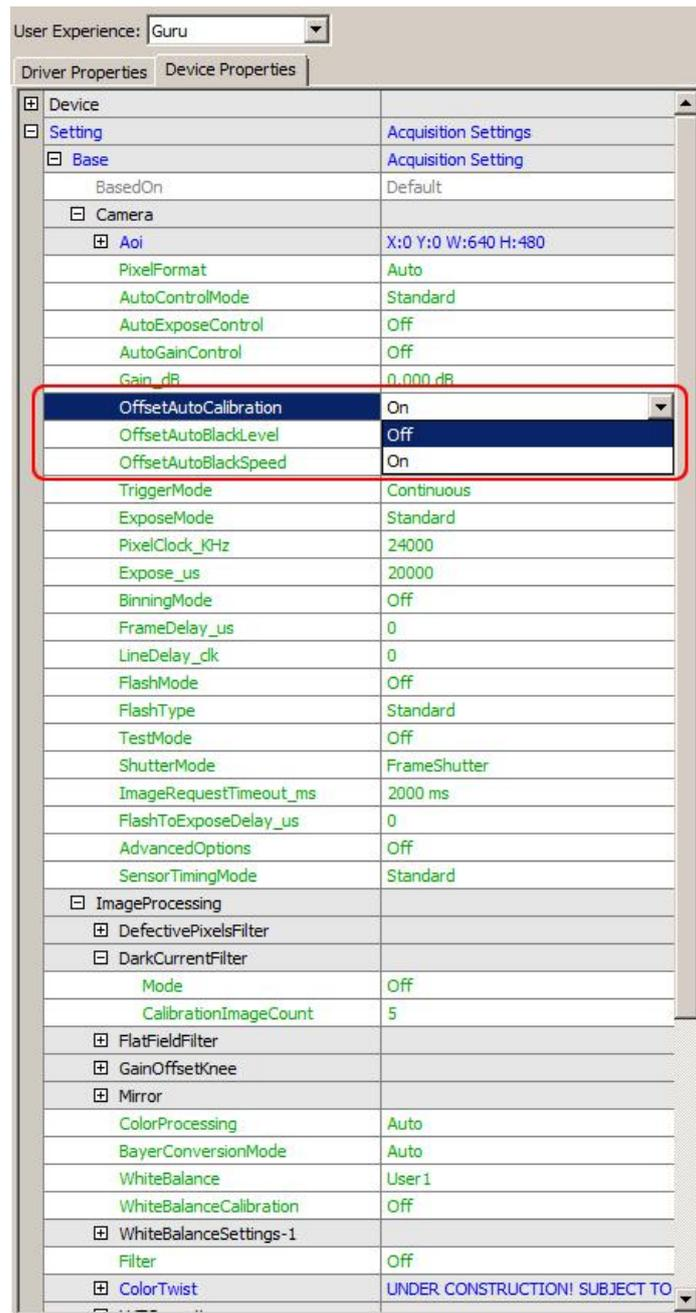

Figure 4 OffsetAutoCalibration = Off
- OffsetAutoCalibration = Off (see Figure 4)